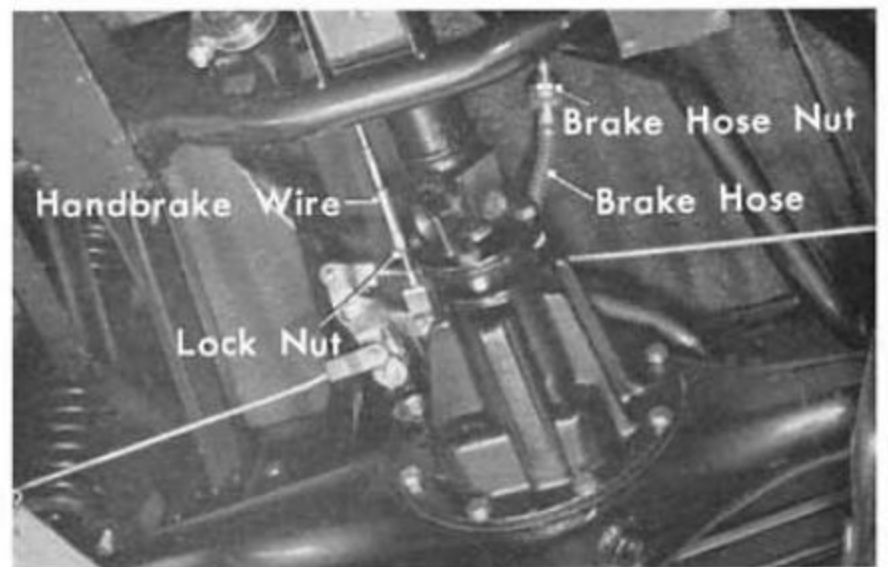

Fig. 17A-10.
26. Drain fuel by removing the fuel drain plug and separate the fuel pipe from the fuel tank by removing the fuel pipe bolt (Fig. 17A-11).